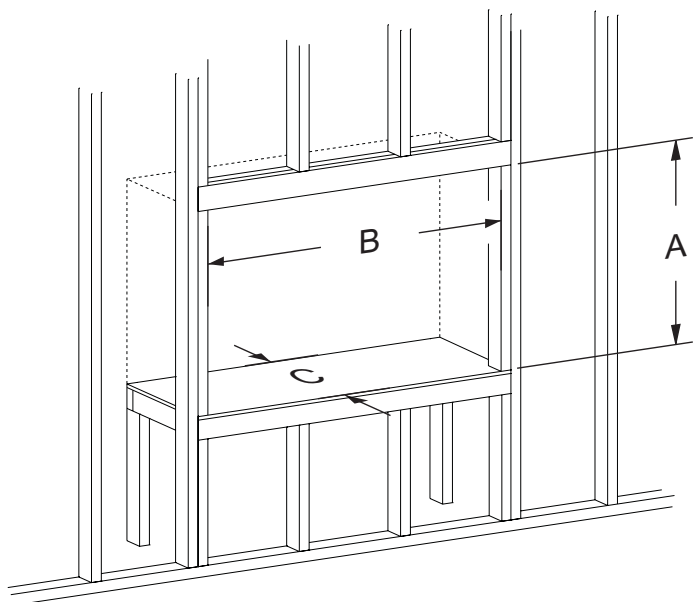

Figure 35 - Rough Opening for Elevated Installation
- Use Figure 35 for an elevated installation. Provide support to the bottom of the fireplace.